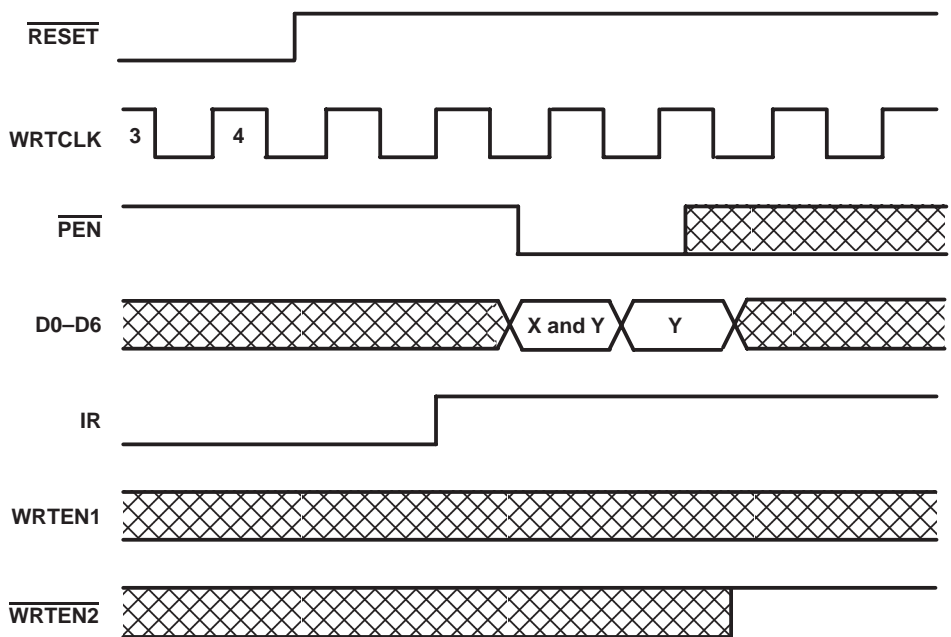

Figure 4. Programming X and Y Separately
Program enable (\overline{PEN}) should be held high throughout the reset cycle. \overline{PEN} can be brought low only when IR is high and WRTCLK is low. On the following low-to-high transition of WRTCLK, the binary value on D0–D6 is stored as the almost-empty offset value (X) and the almost-full offset value (Y). Holding \overline{PEN} low for another low-to-high transition of WRTCLK reprograms Y to the binary value on D0–D6 at the time of the second WRTCLK low-to-high transition. When the offsets are being programmed, writes to the FIFO memory are disabled regardless of the state of the write enables (WRTEN1, $\overline{WRTEN2}$). A maximum value of 127 can be programmed for either X or Y (see Figure 4). To use the default values of $X = Y = 32$, \overline{PEN} must be held high.